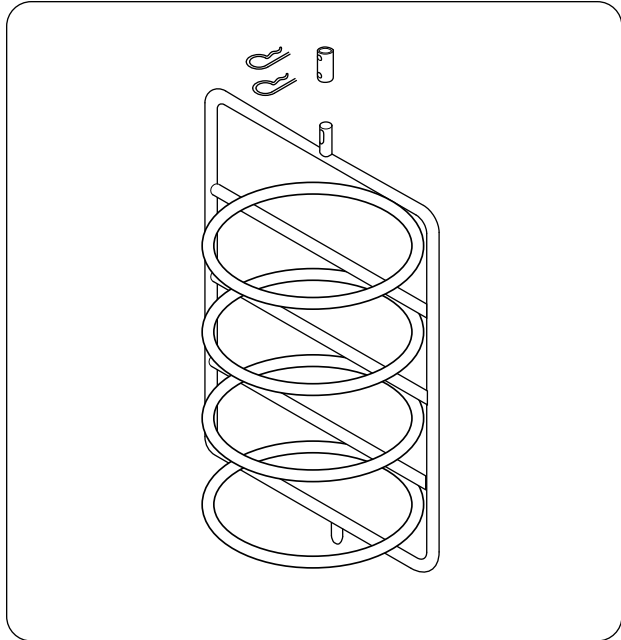

Figure 10. Removing Motorized Display Racks
2. Remove the two (2) pins from the rotating rack coupling located at the top of the rack inside the cabinet. (See Figure 10.)